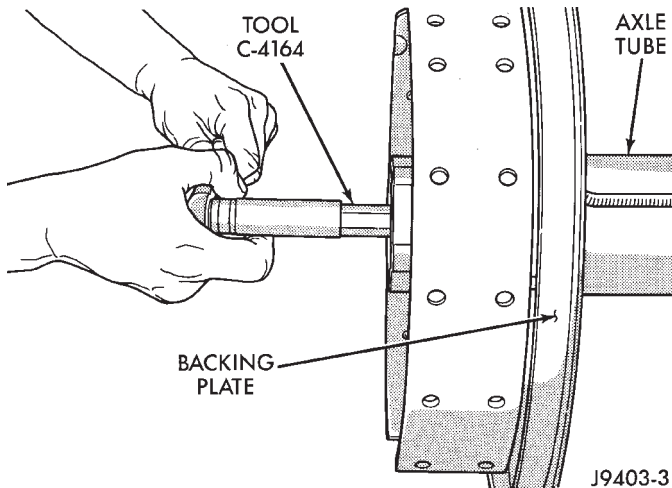

Fig. 58 Threaded Adjuster Tool
(1) Use Wrench C-4164 to adjust each threaded adjuster inward until the differential bearing free-play is eliminated (Fig. 58). Allow some ring gear backlash (approximately 0.01 inch/0.25 mm) between the ring and pinion gear. Seat the bearing cups with the procedure described above.